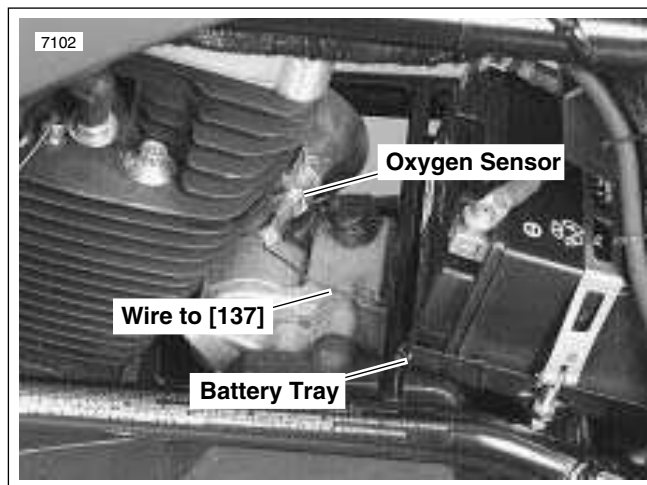

Figure 4-79. Installed Oxygen Sensor
1. See Figure 4-79. Unplug 1-place connector [137] under battery tray.
2. See Figure 4-79. Thread sensor into exhaust header. Tighten sensor to 42-45 ft-lbs (57-61 Nm).